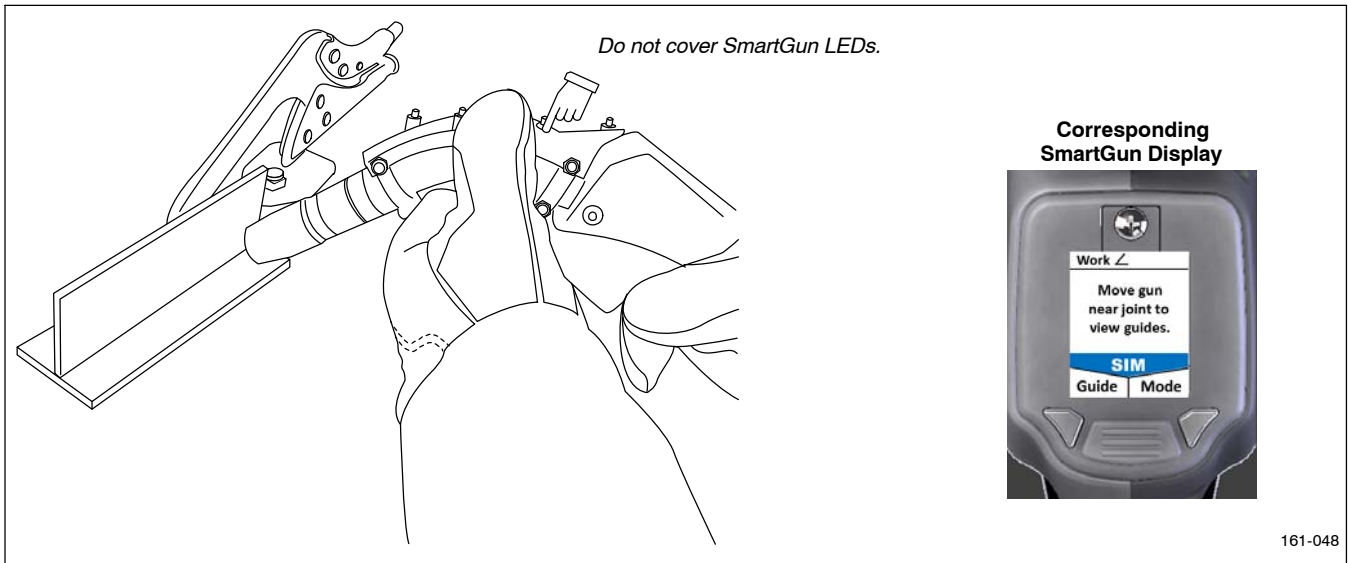
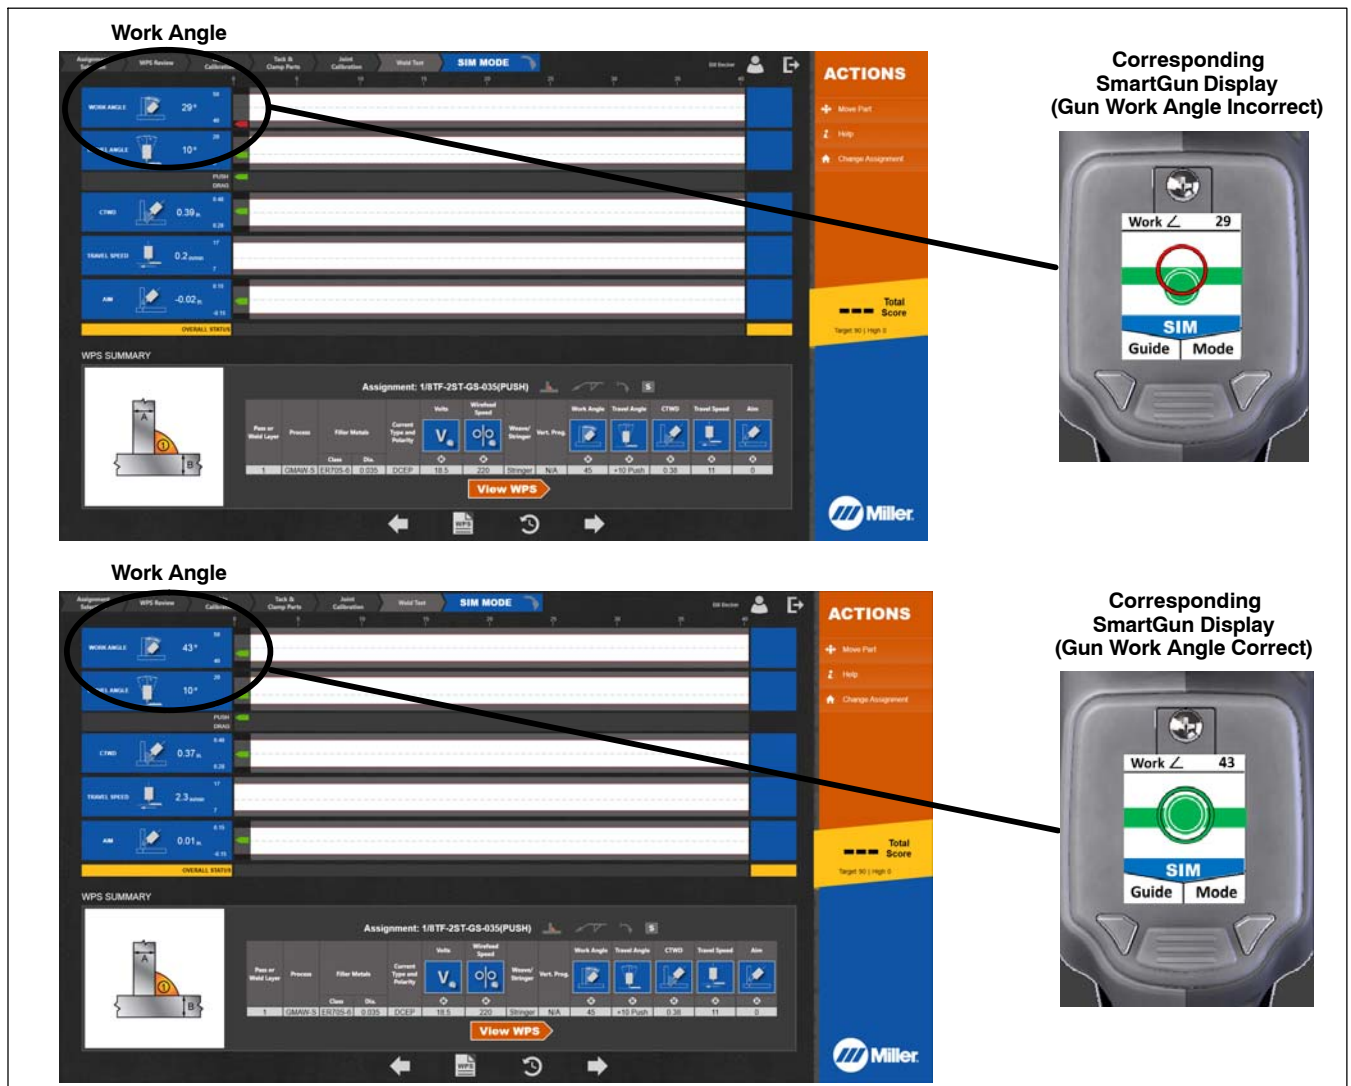

Figure 7-15. Performing Simulated (SIM) Weld Test
Figure 7-16. Example Of Work Angle Guide In Simulated (SIM) Mode
- System is now in the SIM (simulation) mode (as indicated on SmartGun display screen) (Figure 7-15 and Figure 7-16). Move SmartGun near the weld joint; gun positioning recommendations are displayed on the touchscreen and the SmartGun display screen. (If you wish to relocate the weld coupons on the weld table, touch *Move Part* on the touchscreen.) Press *Guide* button to cycle through the parameters (work angle, travel angle, travel speed, aim, CTWD, and Guide Disabled). The target on the SmartGun screen indicates if the gun is positioned correctly. Whether the software detects pushing or dragging motion depends on starting position. If you start to the right of the midpoint of the two joint calibration points, it expects you to travel left. If you start to the left of the midpoint, it expects you to travel right.